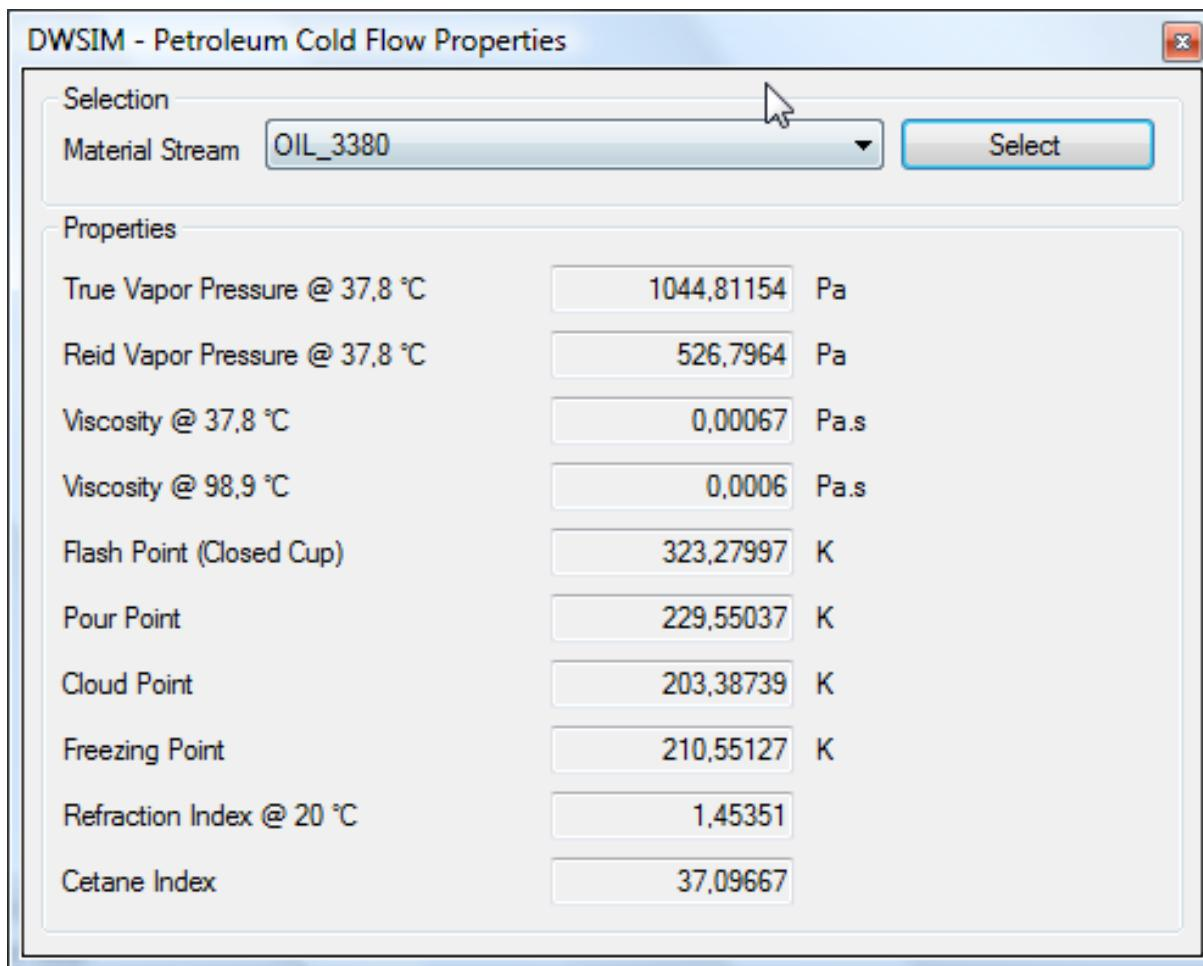

Figure 49: Utilities - Petroleum Cold Flow Properties.
- **Petroleum Cold Flow Properties** - special properties of petroleum fractions, like cetane index, flash point, refraction index, etc. (Figure 49).